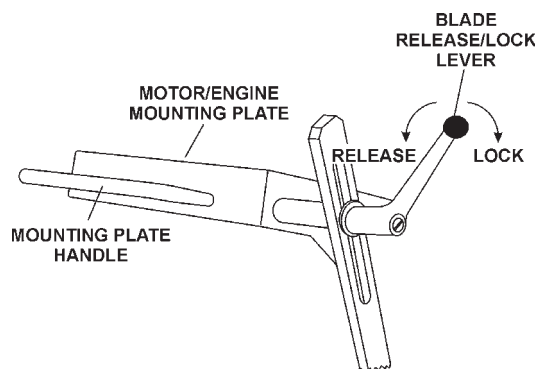

Figure 20. Mounting Plate Release/Lock Lever
2. Place the **mounting plate release/lock lever** (Figure 20) in the **release** position (pull back to release). When releasing the lock, hold on to the mounting plate handle to prevent the plate from rising rapidly, possibly causing the saw to become unstable. Let the plate raise **slowly**.